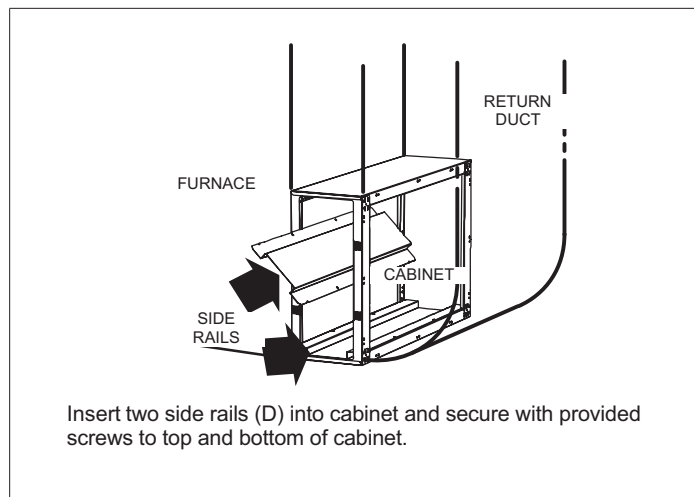

Figure 14. Install Side Rails
NOTE: Side rails (D) are attached to the cabinet after the cabinet is installed on the Furnace/Air Handler (see Figure 14 on page 6).
7. Insert side rails (D) into the cabinet and use the provided screws to secure them to the cabinet at both the top and bottom (see Figure 14).